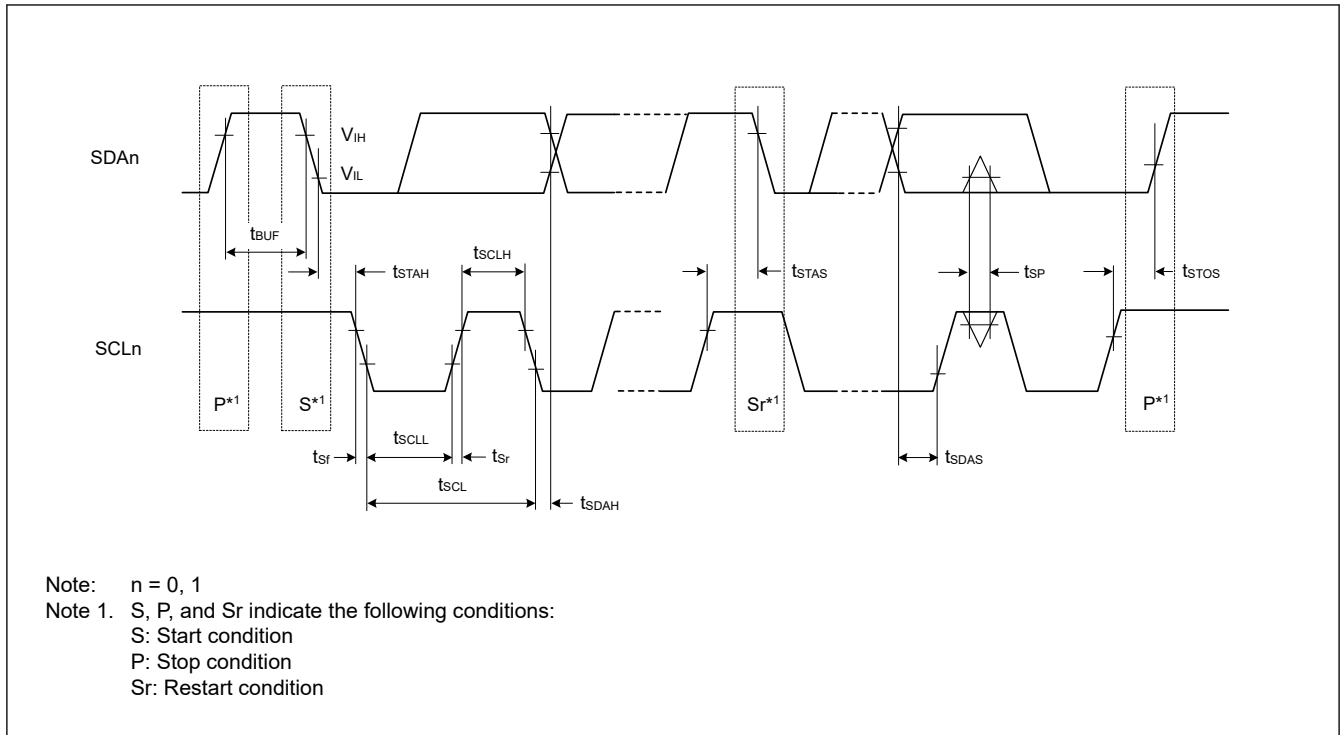

Figure 2.42 I2C bus interface input/output timing
| IIC(Standard mode,SMBus)ICFER.FMPE = 0 | SCL input cycle time   | $t_{SCL}$  | $6 (12) \times t_{IICcyc} + 1300$                   | —                         | ns              | Figure 2.42 |
| IIC(Fast mode)       | SCL input cycle time   | $t_{SCL}$  | $6 (12) \times t_{IICcyc} + 600$                       | —                         | ns   | Figure 2.42     |
| IIC(Fast-mode+)ICFER.FMPE = 1 | SCL input cycle time   | $t_{SCL}$  | $6 (12) \times t_{IICcyc} + 240$                    | —                         | ns              | Figure 2.42 |